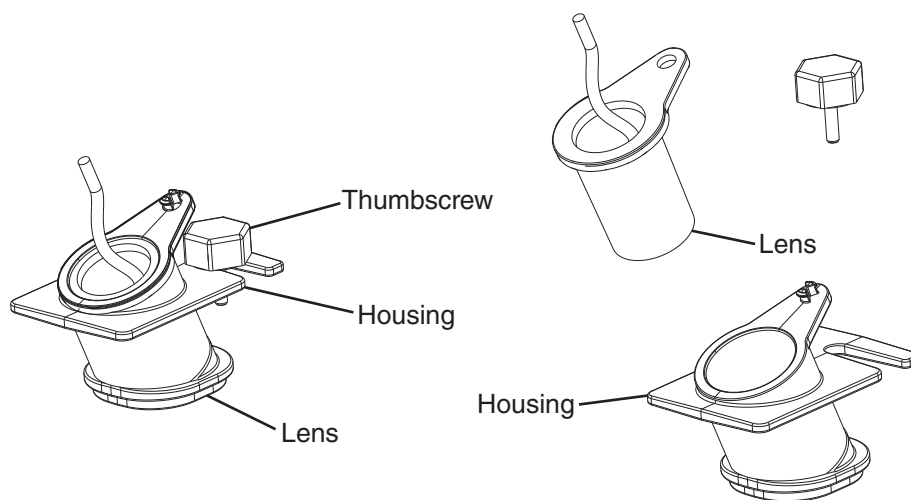

Fig. 5
- 4) Confirm that BC1 is connected to CB K10 connector. Wipe down BC1 lens with a warm, clean, damp cloth. If the bottom of the icemaker is not accessible in your application, remove the thumbscrew securing the BC1 housing, then remove the housing from the base. See Fig. 5.
- 8) CB "GM" and "COMP" LEDs are on. Use an object to cover BC1 lens at the bottom of the icemaker. If the bottom of the icemaker is not accessible in your application, remove the thumbscrew securing BC1 housing, remove the housing from the base, then cover BC1 lens. See Fig. 5. The CB BC1 "BIN FULL" orange LED on turns on. After the orange LED turns on, BC1 shutdown delay timer starts. See "III.B.2b. BC1 (Ultrasonic Sensor) Shutdown Delay (S2 dip switch 1, 2, 3)." Comp (LLV/SLV on MLJ model) should de-energize immediately after the shutdown delay timer terminates. 5 min. later, GM and FM/FMR should de-energize.